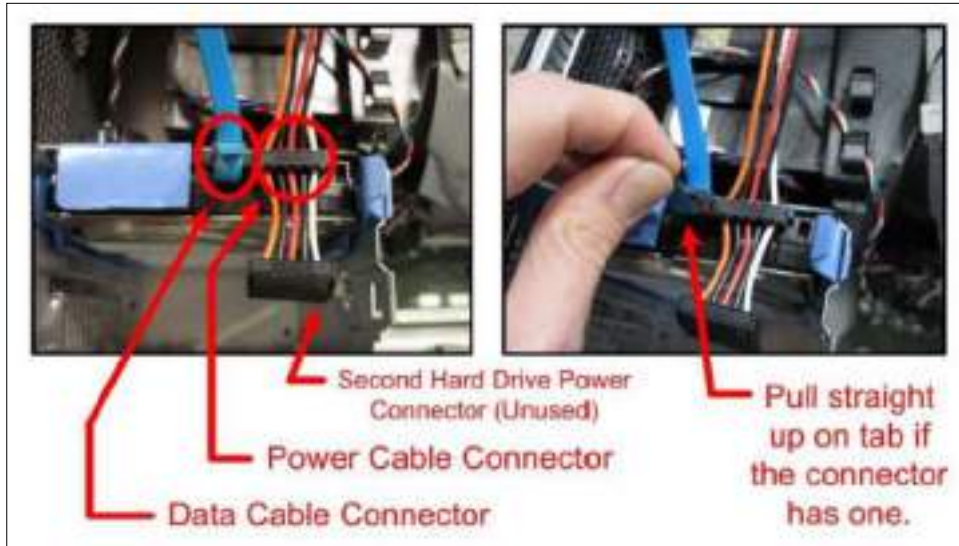

Figure 151: Disconnect Hard Drive Data and Power Cables
- a. To remove the existing hard drive, first disconnect the data and power cables from the drive. Use the pull-tab on the connectors if they have them. See Figure 151 below.